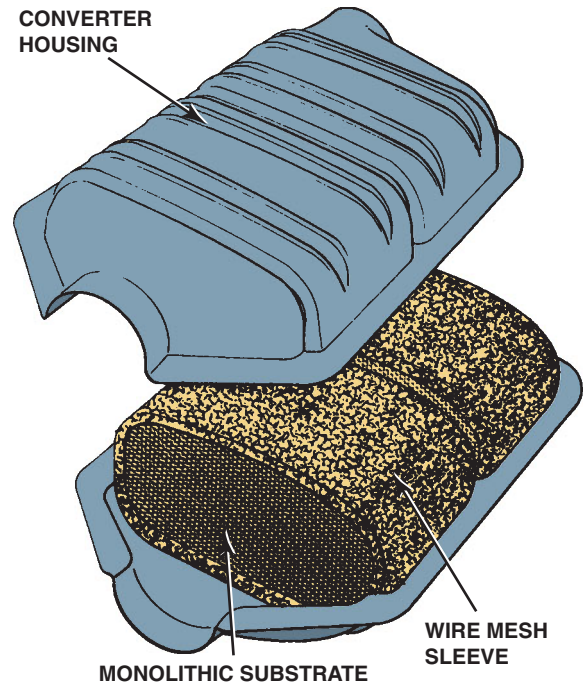

FIGURE 39-23 A typical catalytic converter with a monolithic substrate.
- The catalytic materials are then applied on top of the washcoat. The substrate is contained within a round or oval shell made by welding together two stamped pieces of stainless steel. ● SEE FIGURE 39-23.